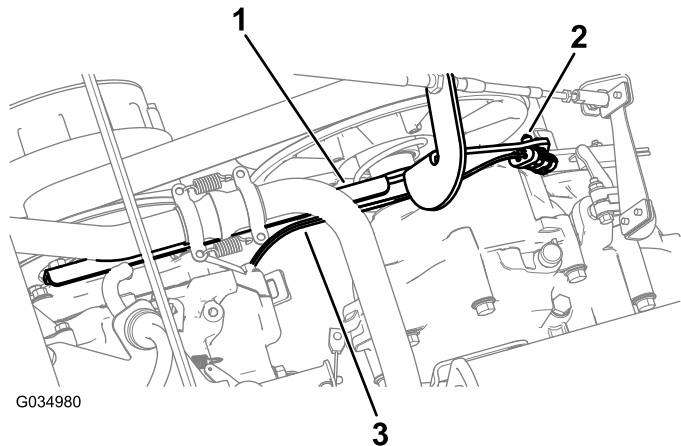

Figure 5
1. Route the kit wire harness forward, along the transaxle bracket, and insert the push mount on the harness to the transaxle bracket (Figure 5).